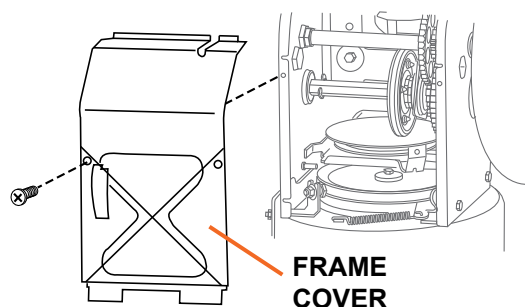

Figure 13
1. Remove the lower frame cover by removing the two screws which secure it (see Figure 13).